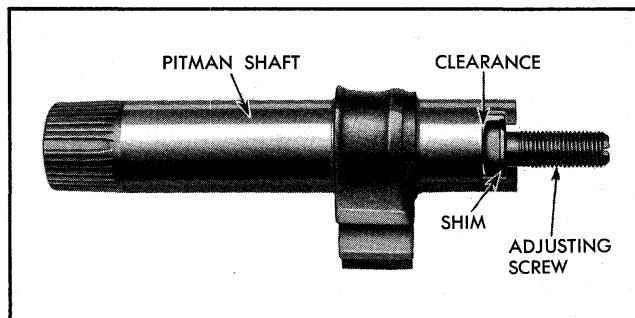

Fig. 9-20 Pitman Shaft and Adjusting Screw
4. Remove adjusting screw from slot in end of pitman shaft. Make sure shim found on adjusting screw remains with screw (Fig. 9-20).